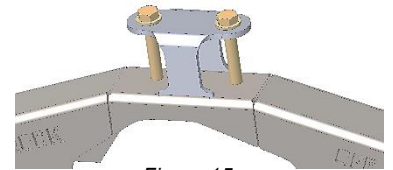

Figure 15
89. Weld upper control arm bracket to truss (see figure 15). **Box Truss:** Be sure holes are aligned in the bracket/truss and leave 2-5/8\" plus some wiggle room for mounting control arms. **Plate Truss:** Using the bracket as a template: place the bracket flush to front edge of truss and directly over the axle centerline, then mark the location of holes to be drilled. Drill the two holes starting with a small drill size and ending with 9/16\" Use plenty of oil. Be sure bolt holes are aligned in the bracket/truss and leave 2-5/8\" plus some wiggle room for mounting control arms before welding.
90. Assemble UCA mounting bolts and nuts from hardware kit 150 onto truss (see figure 15 & 16). Snug bolts and weld nuts to bottom of truss. **Box Truss:** Stitch weld the truss gusset into the inside of the truss. Ensure holes in gusset are aligned to truss (if applicable).